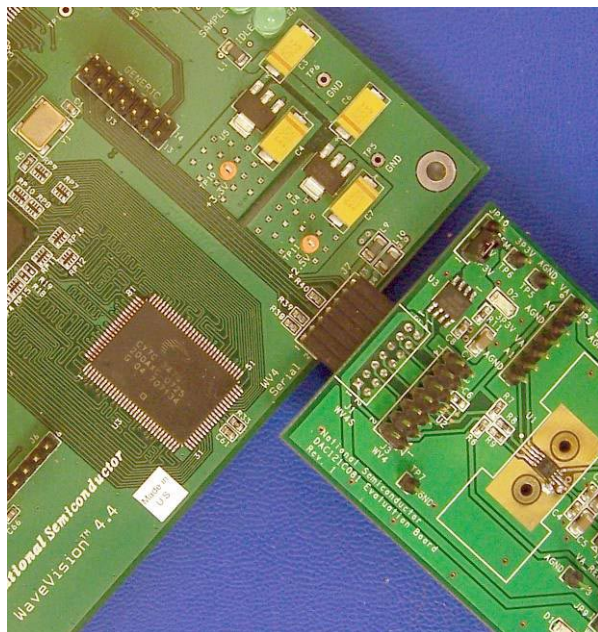
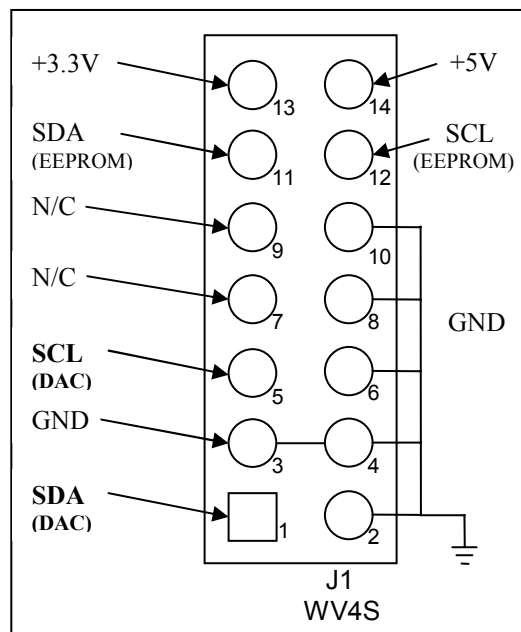

Figure 3: WV4 to DAC121C08XEB Connection
Figure 4: J1 (WV4S) Header
4. Connect the **J1** header on the DAC121C08XEB evaluation board to the WV4 serial connector (**J7**) on the WV4 board. Refer to *Figure 3* for the serial connection and *Figure 4* for the J1 header pin out. *Note:* J1 on the DAC121C08XEB is intentionally stuffed on the bottom side of the board.